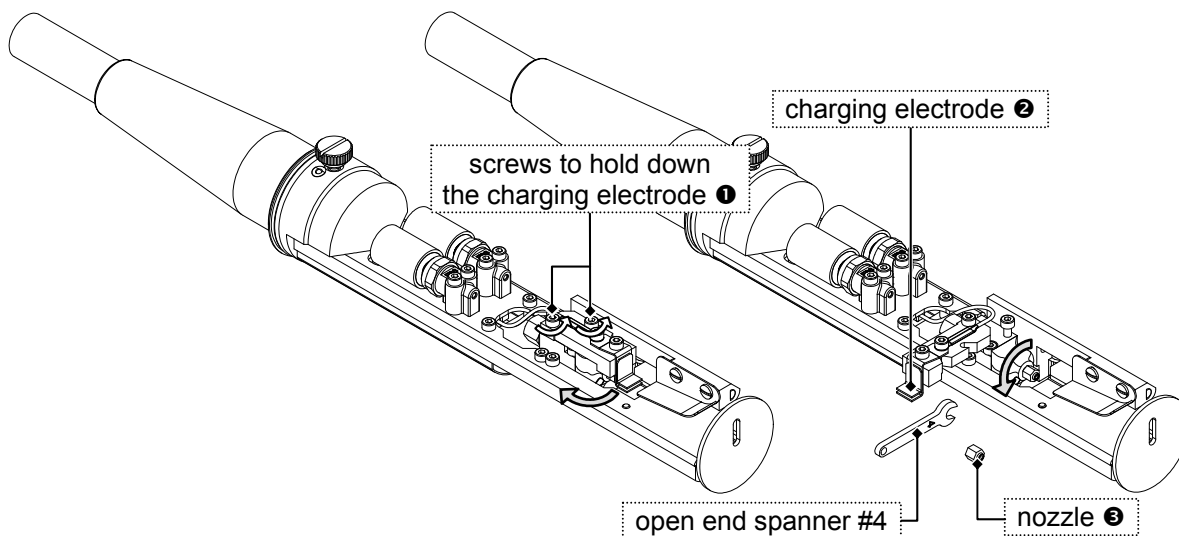

Fig. 6.1.4.1
3. Loosen two screws **1** that fix the insulator of the charging electrode - see Fig. 6.1.4.1.
4. Turn the charging electrode **2** in the direction shown in Fig. 6.1.4.1.